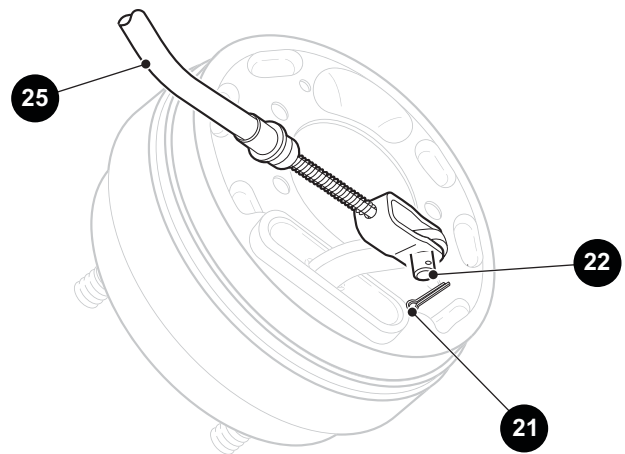

Figure 20 Cable Connection (Drum End)
10. Connect the cables (20) to the brake levers using new clevis pins (22) and new cotter pins (21) (Ref. Figure 20).